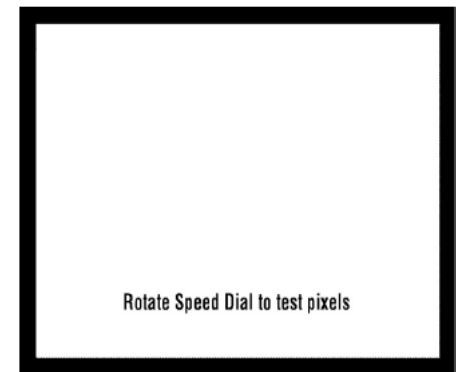

Figure 1.7: Pixels Test
2. Select **PIXELS** in the Service/Tests submenu. The pixels test screen appears, as shown in Figure 1.7.